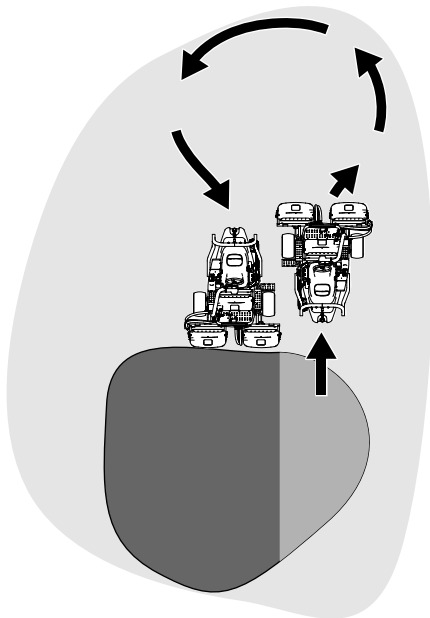

Figure 34
6. To cut down on operating time and to ease the lineup for the next pass, momentarily turn the machine in the opposite direction, then turn it in the direction of the uncut portion. This movement is a tear-shaped turn (Figure 34), which quickly lines the machine up for your next pass.